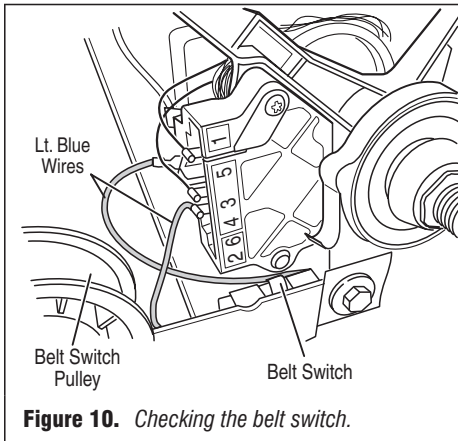

Figure 10. Checking the belt switch.
7. Check the belt switch by measuring resistance between the two light blue wires, as shown in figure 10, page 6, while pushing up the belt switch pulley.